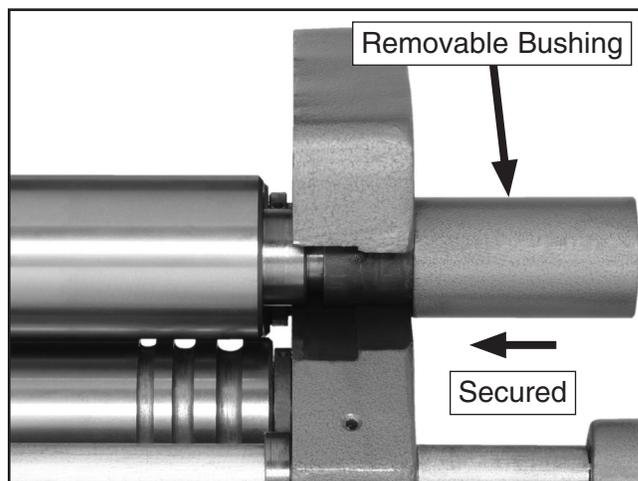

Figure 32. Securing upper roller.
4. Move the upper roller back into position and slide the removable bushing in to secure the upper roller (**Figure 32**).